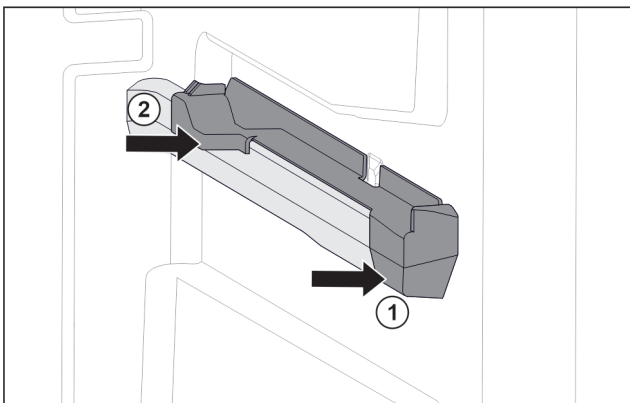

Fig. 74 Attachment on the right moulded rib
- ▶ Position attachment on moulded rib at the front. Fig. 74 (1)
- ▶ Press on attachment at the back. Fig. 74 (2)